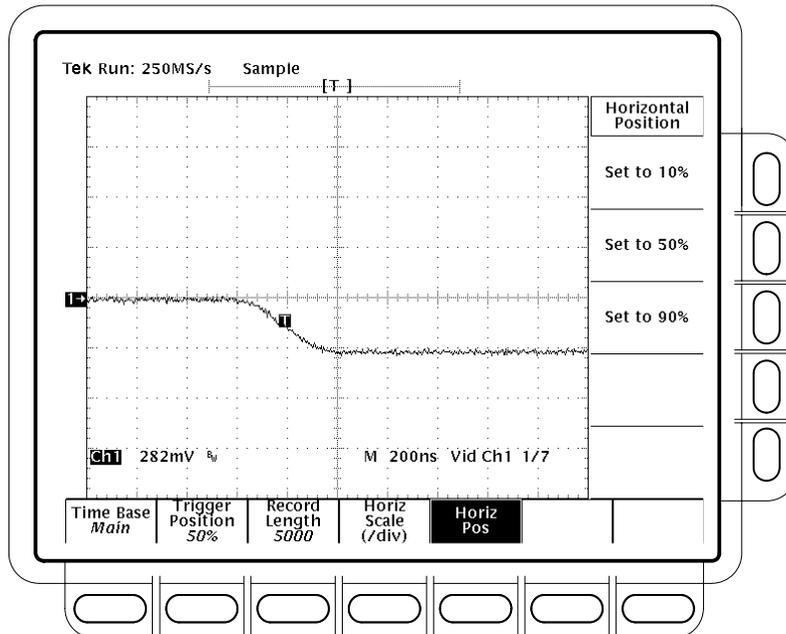

Figure 4-36: Line Count Accuracy Test Setup Waveform – TDS 684B Shown
- Use the **HORIZONTAL POSITION** knob to move the falling edge of the sync pulse to two divisions to the left of center screen. See Figure 4-36.